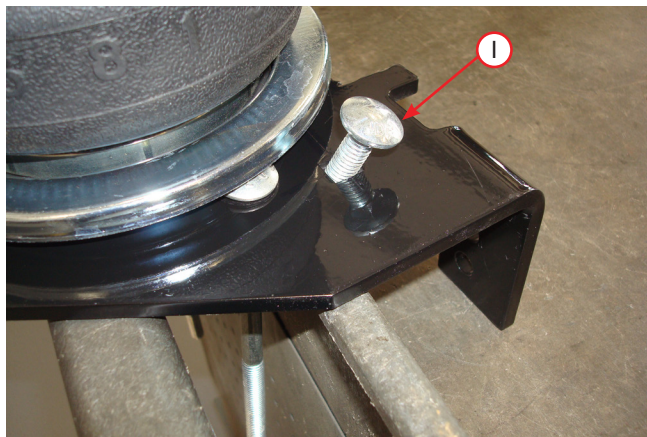
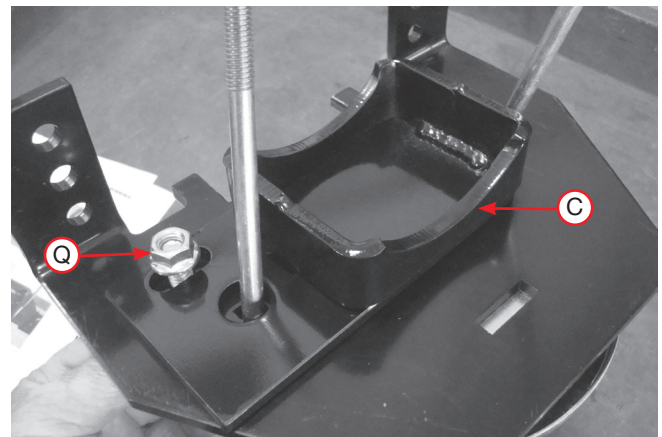

Fig. 18
Fig. 19
6. Insert the 3/8"-16 x 1" carriage bolt (I) (Fig. 18) through the top of the lower bracket. Flip over the assembly and install the lower bracket cup (C) onto the lower bracket main plate over carriage bolt and cap with serrated flange lock nut (Q) (Fig. 19). Snug bolt down but leave loose enough for the bracket to move freely in slot.